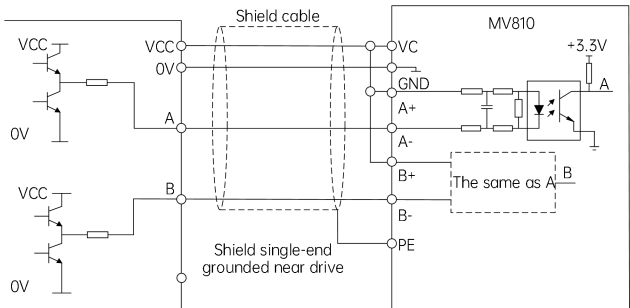

Fig. 4-21 Wiring diagram for push-pull PG
- (2) When the PG output signal is a push-pull signal, the wiring with the interface board is as shown in Fig. 4-21: